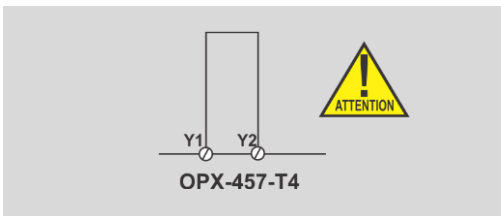

Figure 9 - Jumper for automatic reset mode.
- ✓ Automatic OPX-457-T4. Fig 9